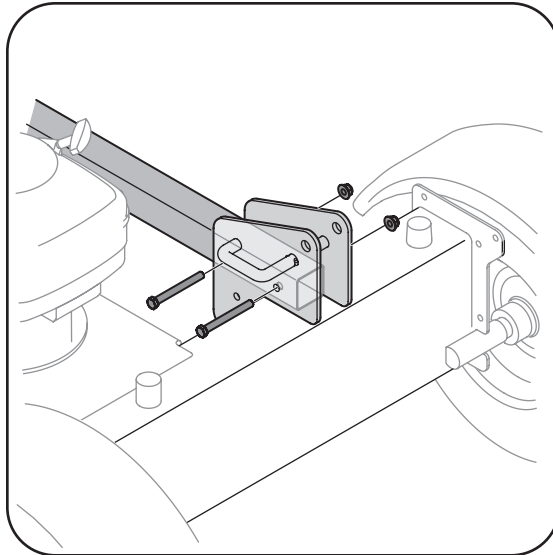

Figure 3-2
1. With the log splitter still standing upright, remove two hex bolts and hex nuts from the end of the tongue. See Figure 3-2.
2. Align the holes in the tongue with the holes in the tank bracket and secure with hardware just removed. See Figure 3-2.